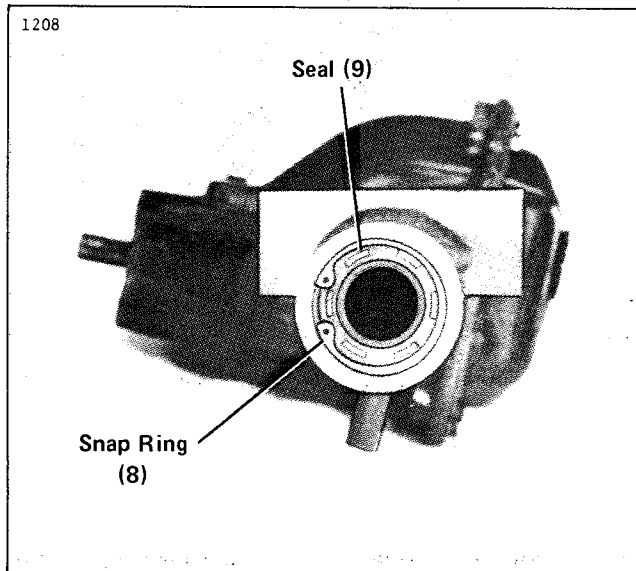

Figure 2A-12F: Snap Ring and Seal
11. To remove seal (9), first remove snap ring (8) and then pull or pry seal from housing (Figure 2A-12F).